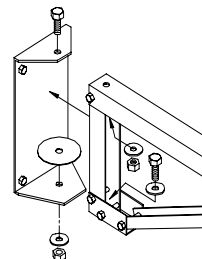

Figure 10 - Arm Installation
4. Insert the arm assembly into the wall bracket as shown in Figure 10.